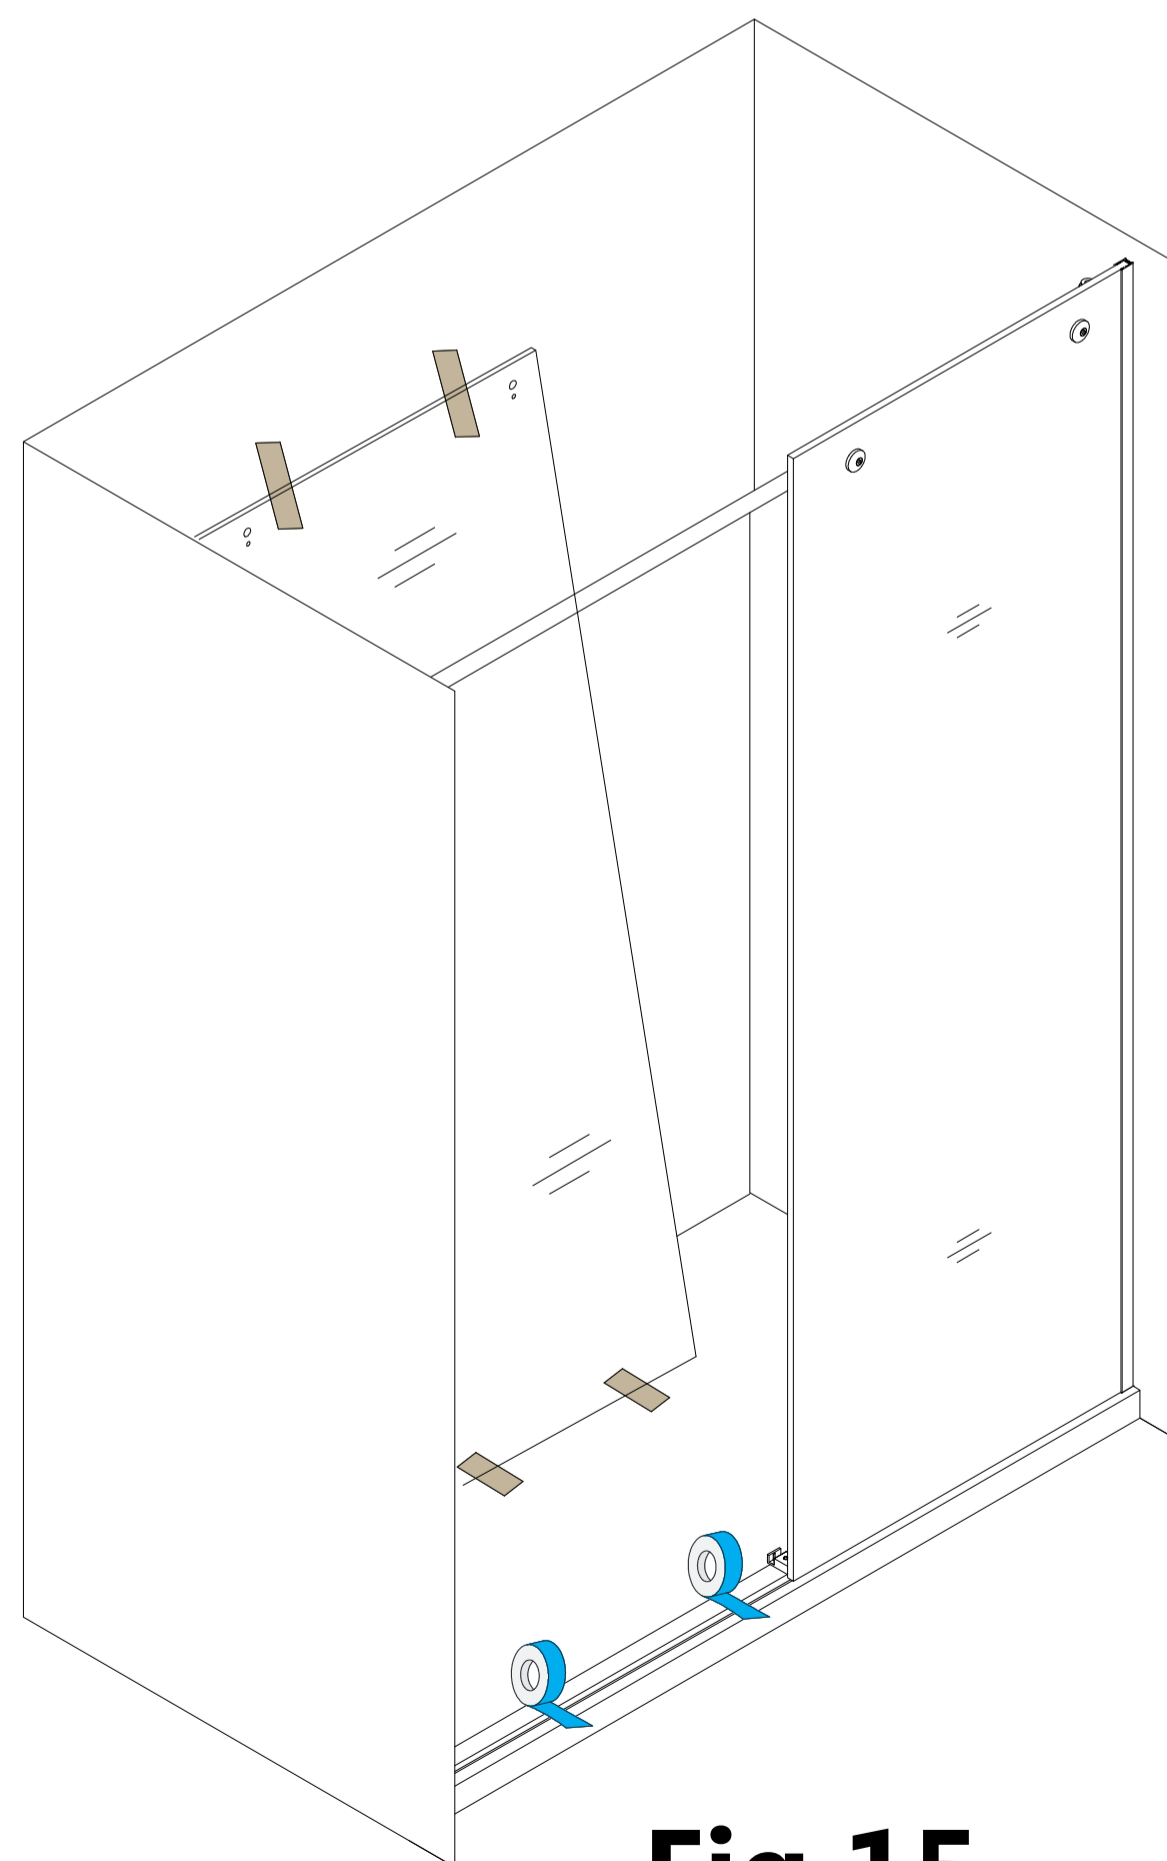

Fig 15
15 Secure the **Anti-Splash Guard (B)** to the threshold with several pieces of painter's tape to hold it in position tight to the threshold until the silicone fully cures. **(Fig 15)**